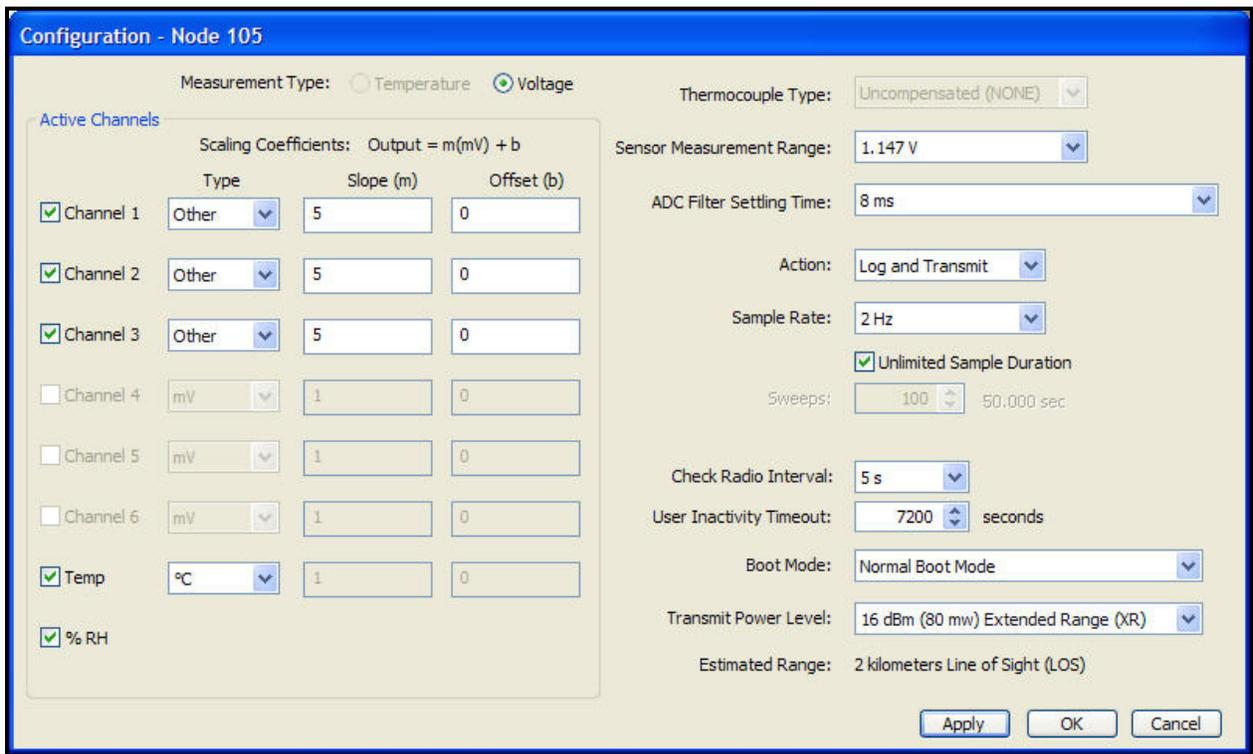

Figure 3. Configuration window
16. The ENV-Link™ -Mini-LXRS™ has been pre-configured at the factory to support four attached sensors. Figure 3 displays the factory settings.
- **Note: If the settings are not as they are shown in Figure 3, they should be made to match.**